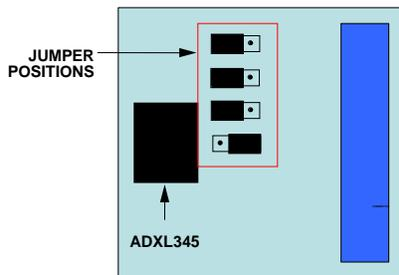

Figure 14. Correct Jumper Positions for the ADXL345 Satellite
1. Verify that the jumpers located in the center of the ADXL345 satellite are configured as shown in Figure 14.